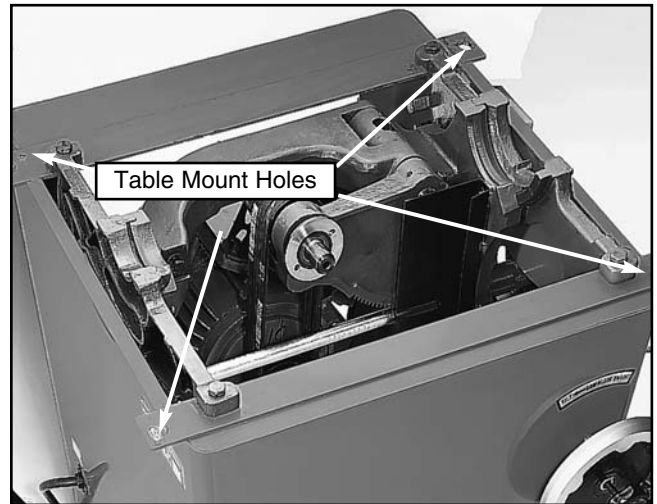

Figure 23. Table mounting bolt holes.
6. If the difference is greater than $\frac{1}{64}$ ", loosen the four (4) table mounting bolts as seen in **Figure 23** and adjust the table slightly. Repeat **Steps 1-5** until satisfactory. Do not forget to tighten the table mounting bolts when finished.
9. If the blade was parallel to the miter slot at 90° but not at 45°, the table will need to be shimmed with metal shim stock. The shims are placed under the table over each of the four table mounting bolts as shown in **Figure 23**.